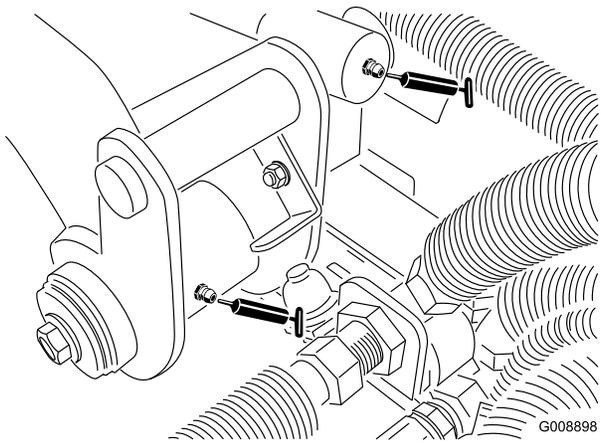

Figure 35
- 2 rear lift-arm pivots and lift cylinder (Figure 35)